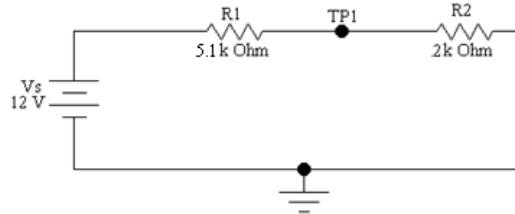

Figure 4.12
4. Construct the circuit of Figure 4.12, with  $V_S = 12\text{ V}$ ,  $R_1 = 6\text{ k}\Omega$ ,  $R_2 = 2\text{ k}\Omega$ . Set the **VERTICAL** scale for Channel 1 to 5 (Volts/Div). Measure  $V_S$  using Channel 1 and TP1(Test Point 1) using Channel 2 of the oscilloscope.